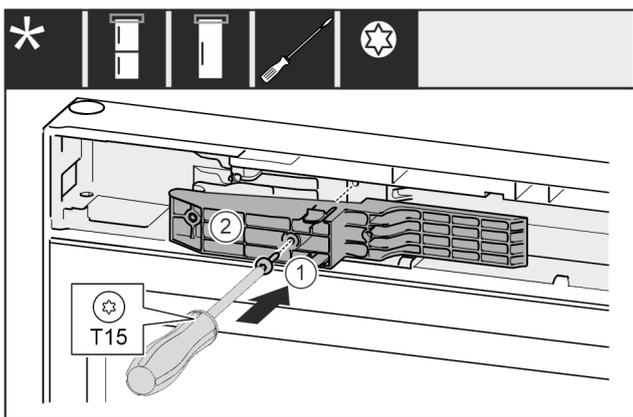

Fig. 54 *
- ▶ Insert adapter Fig. 54 (1) in the recess on the handle side.*
- ▶ Tighten screw Fig. 54 (2) with screwdriver.*